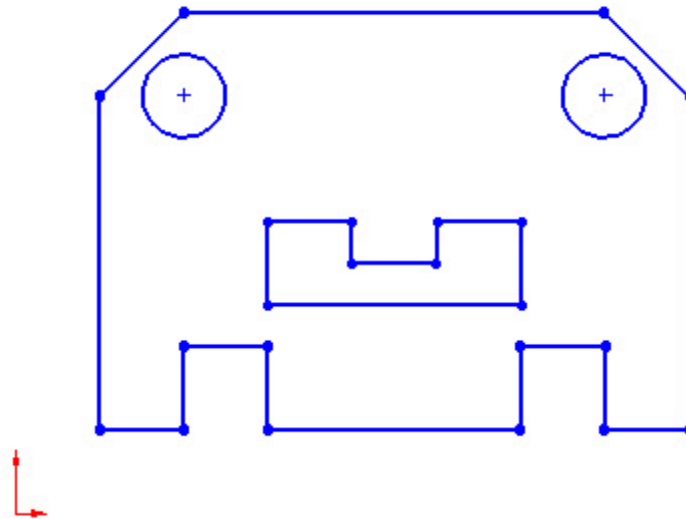

Figure 7 Completed sketch for the model.
11. Right-click and choose Select from the shortcut menu. This completes the sketch for this Tutorial. The final completed sketch is shown in Figure 7.